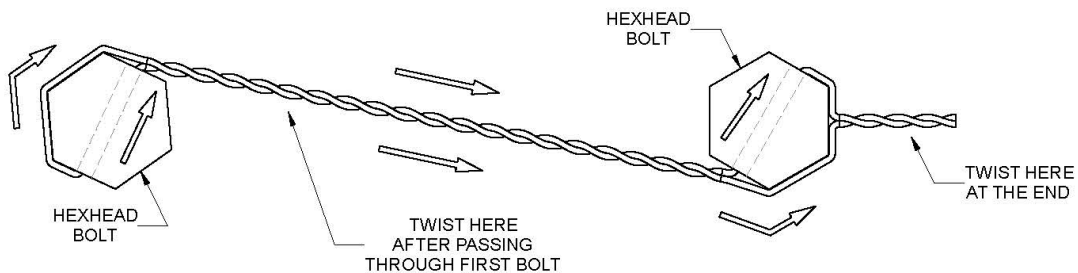

Figure 4
- ▶ All setting plate bolts and insert retainer screws that secure the slip setting ring and insert retainers shall be secured with safety wire to prevent them from backing out during operation. A minimum of **.032” stainless steel safety wire** is recommended. **(See Figure 4)**